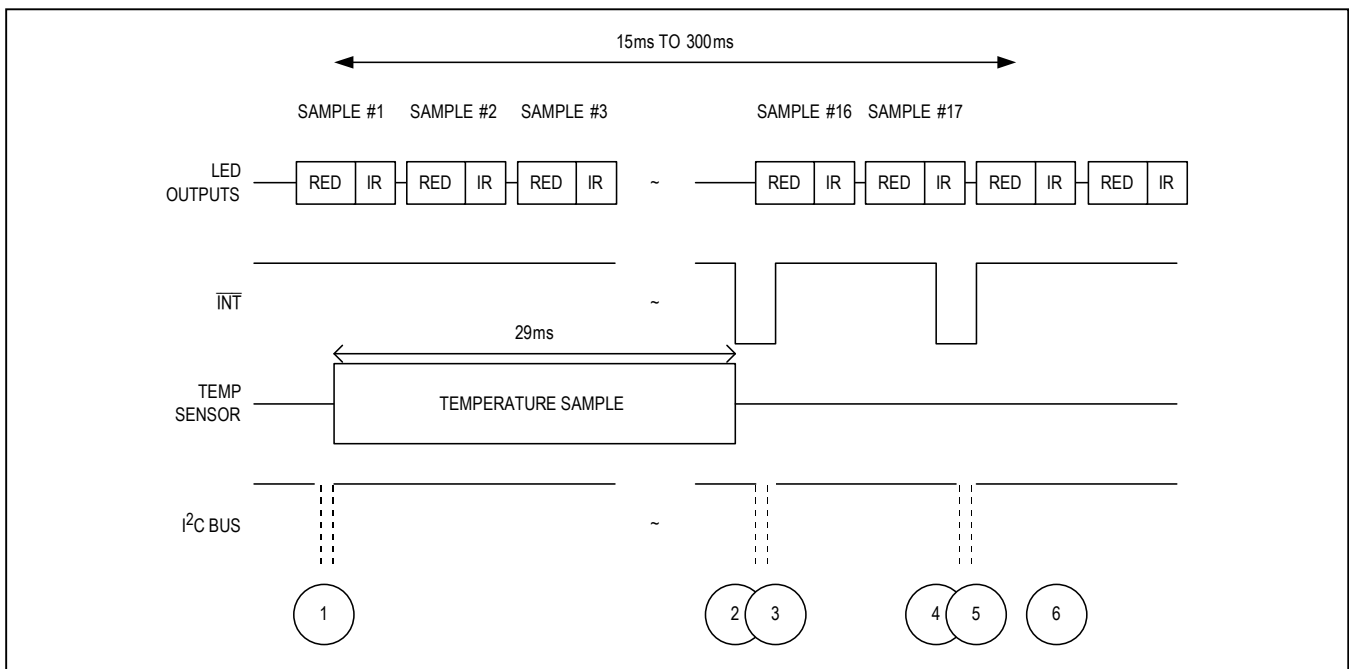

Figure 4. Timing for Data Acquisition and Communication When in SpO2 Mode
The internal FIFO stores up to 32 samples, so that the system processor does not need to read the data after every sample. Temperature data is needed to properly interpret SpO2 data (Figure 4), but the temperature does not need to be sampled very often—once a second or every few seconds should be sufficient.
**Table 15. Events Sequence for Figure 4 in SpO2 Mode**